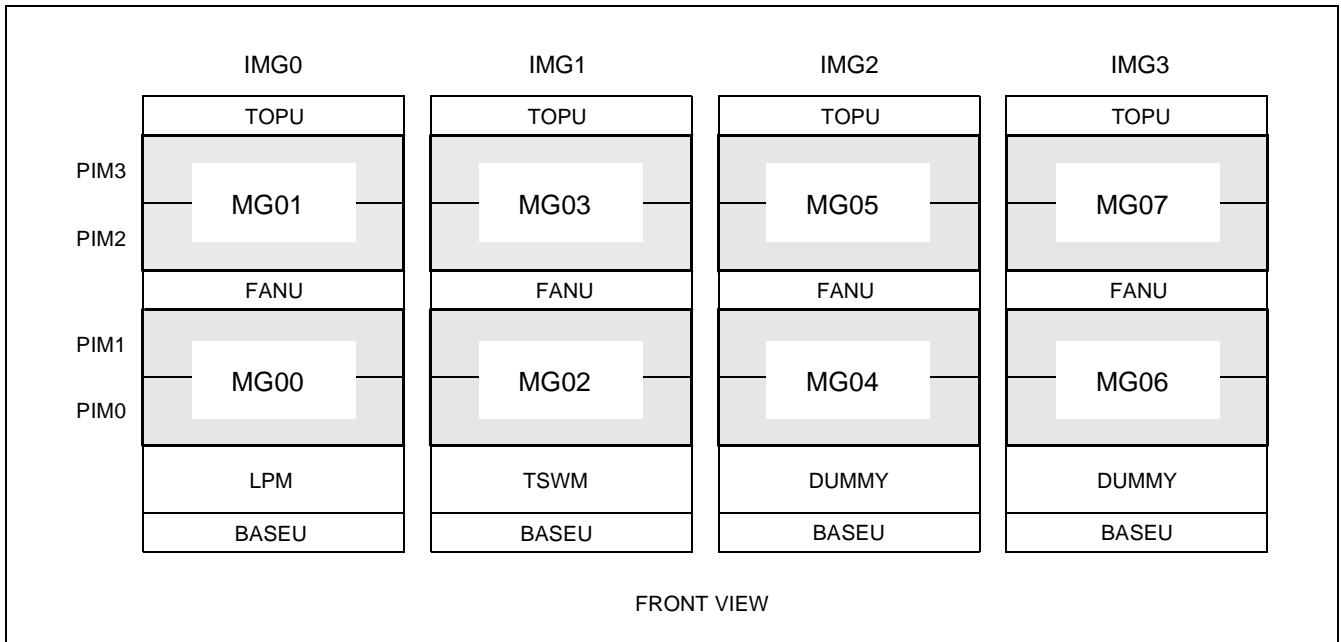

Figure 2-7 Module Group Allocations
Figure 2-7 explains the Module Group (MG). In a fully expanded system, the MG number ranges from 00 to 07.